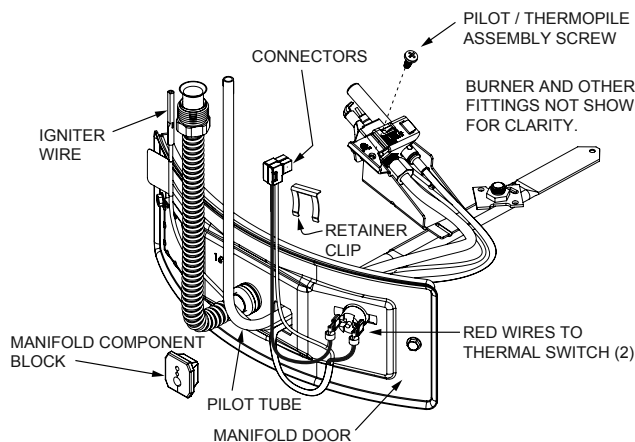

**FIGURE 34.**
1. Take off the burner by removing the two (2) screws located underneath the burner.
2. Check the burner to see if it is dirty or clogged. The burner may be cleaned with soap and hot water (Figure 34).
2. Natural Gas/LP Models - Remove the burner to access the pilot/thermopile assembly. Remove and keep the screws securing the burner to the manifold (Figure 34).
8. Using the pilot/thermopile assembly screw removed earlier reattach the new pilot/thermopile assembly. Reattach the burner to the manifold using the screws removed earlier. NOTE: make sure the burner scoop is oriented to the pilot side of the manifold tube (Figure 34).